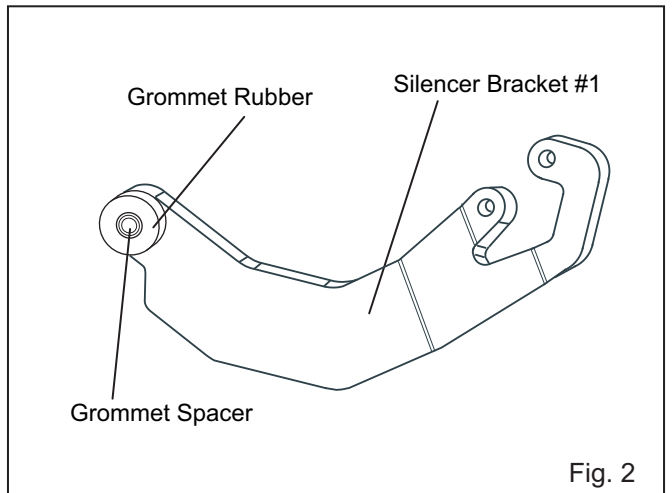

Fig. 2
- 3) Attach Grommet Rubber and Grommet Spacer on Silencer Bracket #1 (See Fig. 2).